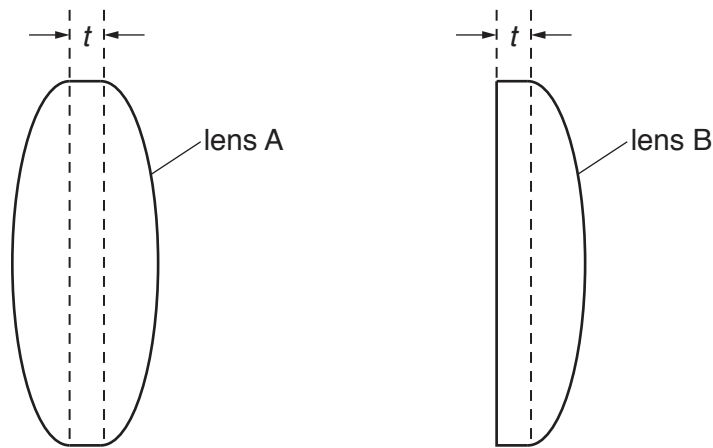

Fig. 1.1
1. The bi-convex or plano-convex lens should be approximately as shown in Fig. 1.1. For some lenses the value of t may be 0 mm.